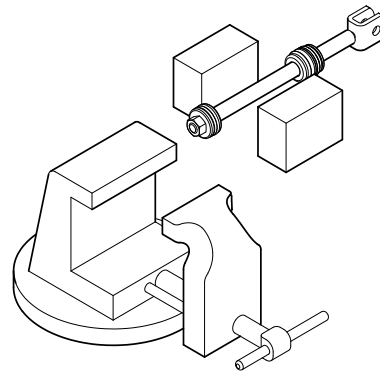

Figure 19, Cylinder shaft
5. Clamp the rod assembly in a soft-jawed vise on the wrench flats, not on the rod surface. If the rod does not have wrench flats use two pieces of wood on both sides of the rod to prevent scarring. (Figure 19)